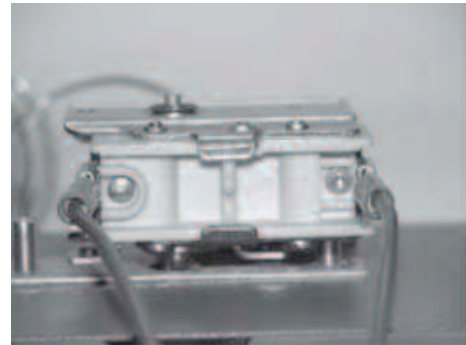

Fig. 18: Attach Wires
5. Attach wires to the poolstat wire terminals. See Fig. 18.